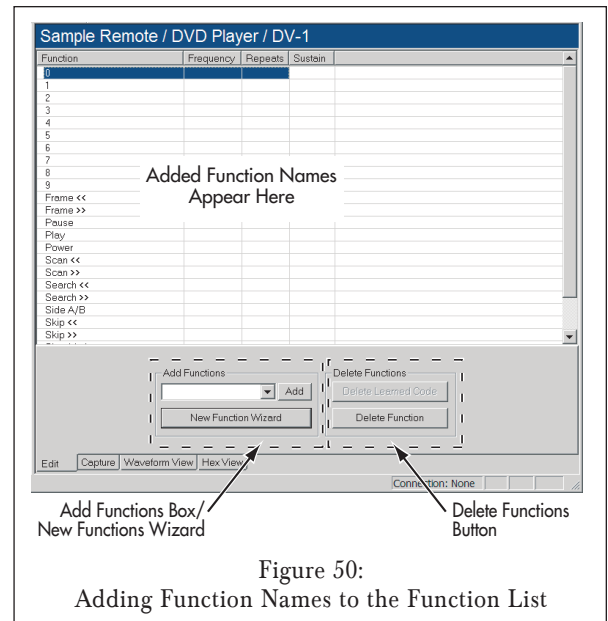

Figure 50:
- Use the ADD FUNCTIONS drop-down box (see *Figure 50*) to add the names of the new remote functions you're going to capture. Select the function names in the drop-down box and click the ADD button to add them to the remote.